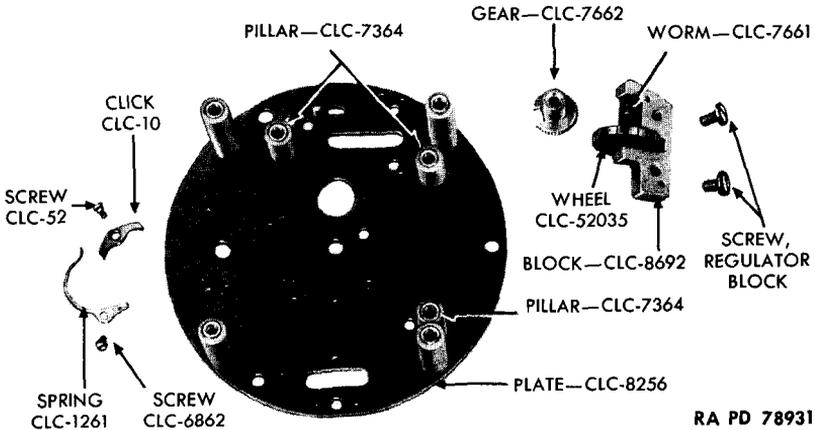

Figure 213 — Message Center Clock M1 — Regulator Index Wheel Assembly, Ratchet Wheel Click, and Click Spring Removed
m. Remove Regulator Worm Assembly, Click, and Click Spring. Remove two screws from the train side of the pillar plate and lift off the worm assembly. Remove ratchet wheel. Remove the click screw and click. Remove click spring screw and click spring (fig. 213).
d. **Replace Regulator Index Assembly, Click, and Click Spring** (fig. 213). Place the regulator index wheel assembly on train side of lower plate, aline wheel to center of slot, and secure with screws. Place regulator gear so slot in gear alines with pin in lower plate. Replace click and secure with its screws; then replace click spring and secure with screw. **NOTE:** *The movement should be supported on a movement block during the balance of assembly.*